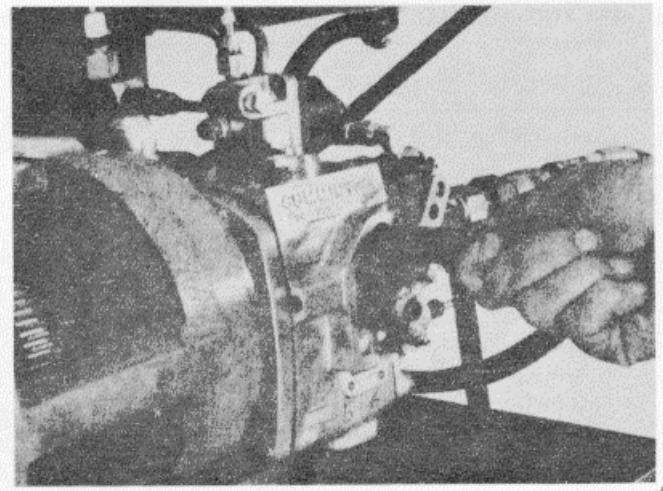

Figure 16G-85. Adjusting No-Air Needle Valve
2. Using Service Tool 3375140, loosen no-air needle valve jam nut, then turn no-air needle valve screw clockwise until it bottoms, Figure 16G-85.